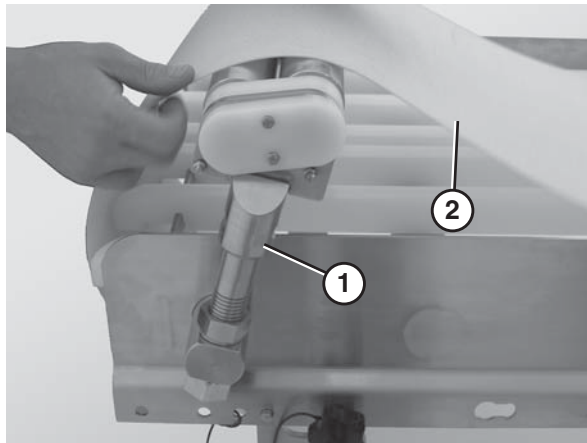

Figure 37
2. Place the tip up tail (Figure 37, item 1) in the up position.
3. Lift up on the belt (Figure 37, item 2).